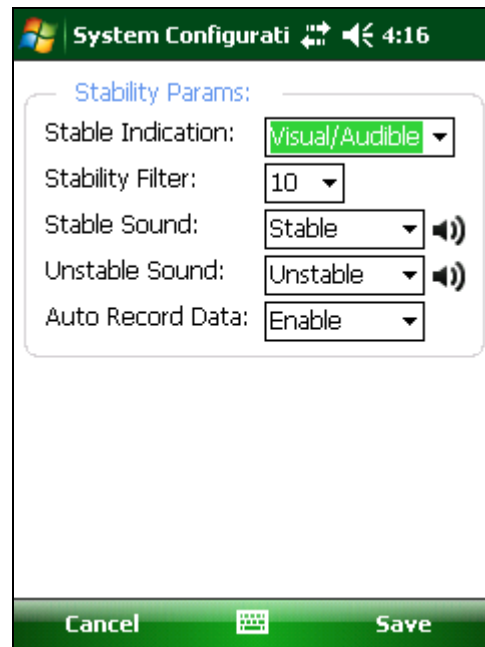

Figure 37 - System Configuration
This screen allows selecting options that affect how the system works and how a survey is taken (see Figure 37). The sub-sections that follow describe each parameter in detail.
- the “Auto Record Data” parameter is set to “Enable” (see Figure 37).
4. By pulling on the inclinometer cable, move the probe to the next level, ensuring that the cable marker/ferrule sits securely in the cable hold. Approximately 1 second after moving the probe, the system will determine that the readings are no longer stable. The stability icon will be set to its unstable state and the “Unstable” sound selected in the “System Configuration” screen (see Figure 37) will be played.